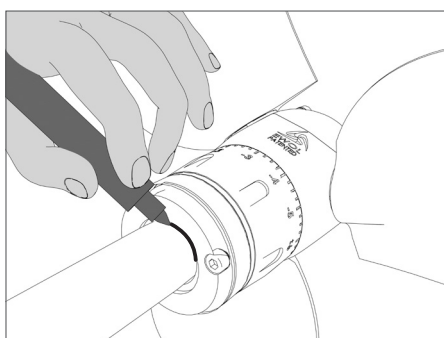

FIG. 9 | Mark with a felt-tip pen here on the shaft
- Use a felt-tip pen to mark the maximum fitting point on the shaft (**Fig. 9**).